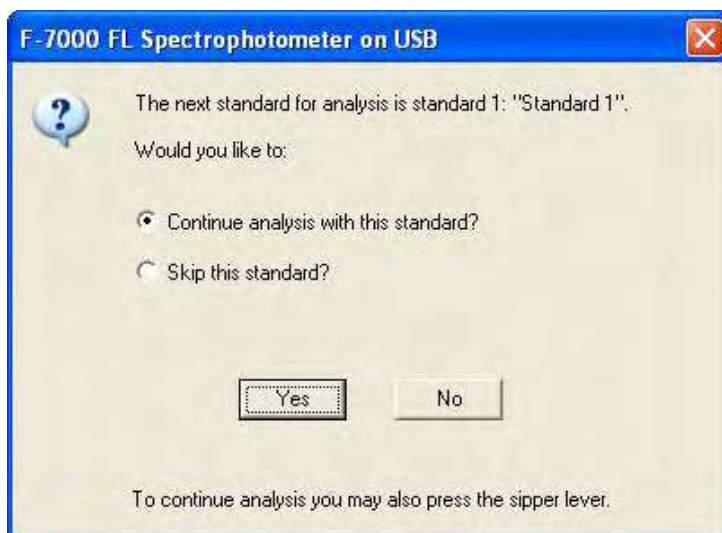

Fig. 9-15 For Start from Creation of Calibration curve
- (1) Select the Measure command from the Spectrophotometer menu of the FL Solutions program or click the  (measurement) button on the toolbar. A window as in Fig. 9-15 will open.